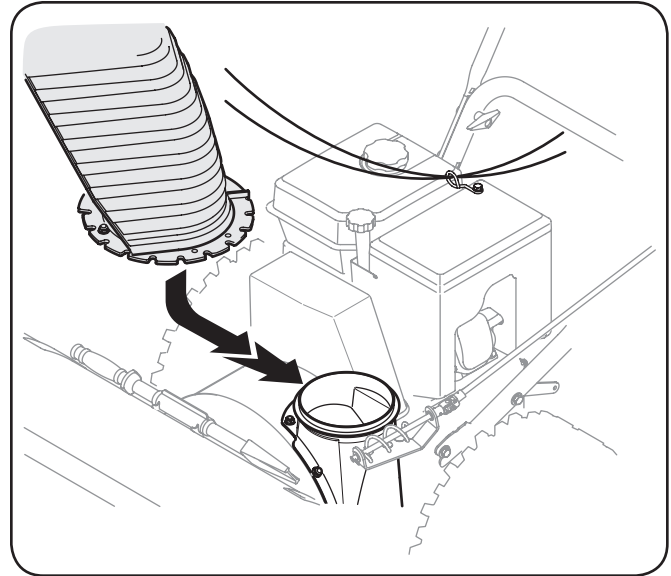

Figure 3-6
2. Place chute assembly onto chute base as shown in Fig. 3-6. Make sure that the chute notches engage with the spiral end of chute directional control, and the two flange keepers are beneath the flange on the chute base.
4. Check that the chute cables are properly routed through the cable guide attached to the lower handle assembly. See Fig. 3-6.